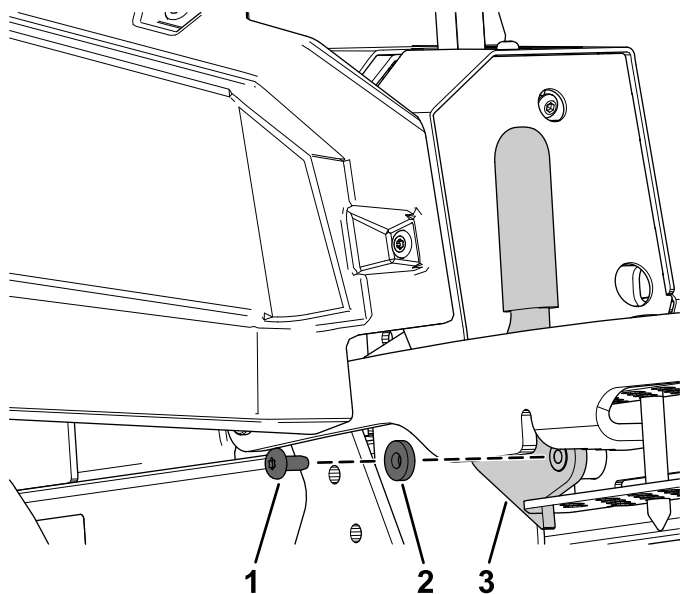

Figure 26
- Remove the bolt, washer, and transport lock (Figure 26).